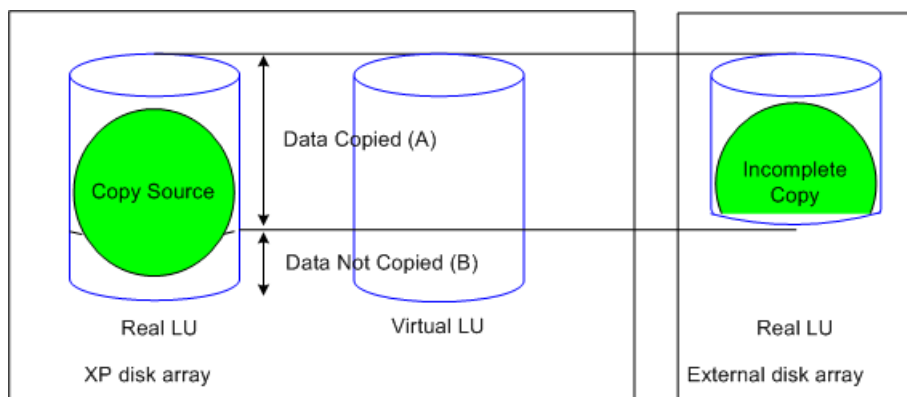

Figure 388 Example of an incomplete copy
Figure 388 shows an example where the copy source is not copied completely to the copy target LU. In this example, data in the XP disk array is copied to the external disk array. In the external disk array, a real LU with capacity smaller than the copy source LU is selected. To copy all source data (A + B) in the XP disk array, the target LU selected in the external disk array is too small, so some copy source data (B) is not copied. This means the Flex Copy copy operation is unsuccessful.